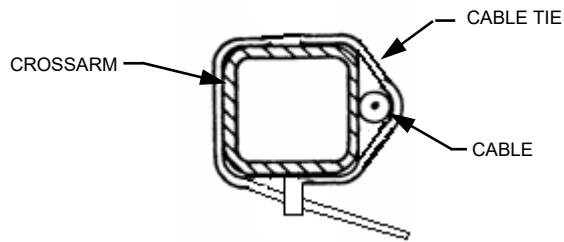

FIGURE 7
3. Secure the cable to the mast side of the crossarm about half way between the dipole fitting and the mast with a cable tie (supplied). See Figure 7.